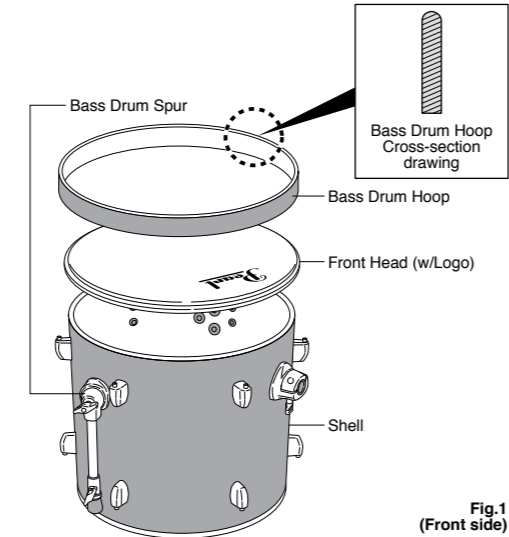

Fig.1
1. Place the Shell on a clean, solid surface with the front side (the side with the Bass Drum Spurs attached) facing upwards. Put the Front Head with Pearl Logo on the Shell then attach the Bass Drum Hoop with flat side down on the Rim of the Head (Fig.1).